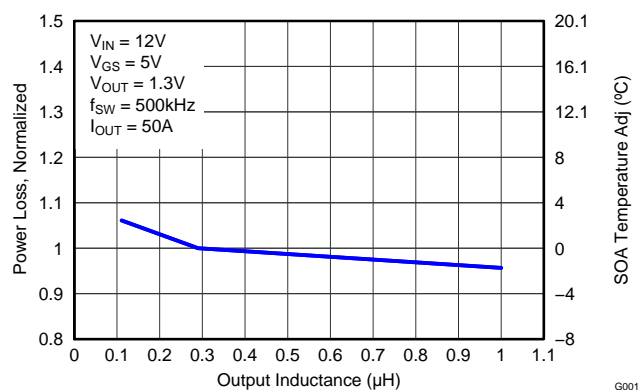

Figure 9. Normalized Power Loss vs. Output Inductance
- Normalized Power Loss for output inductor ≈ 1.03 (Figure 9)
- SOA adjustment for output inductor $\approx 1.3^{\circ}\text{C}$ (Figure 9)